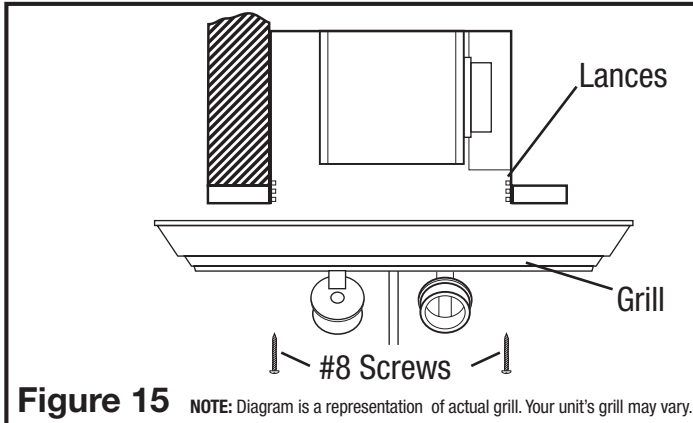

Figure 15 NOTE: Diagram is a representation of actual grill. Your unit's grill may vary.
5. Line up slots in the grill with lances on inside of housing. Insert included #8 screws through grill slots and into housing lances. Tighten both screws until the grill fits snugly to the ceiling. DO NOT OVER TIGHTEN (**Figure 15**).